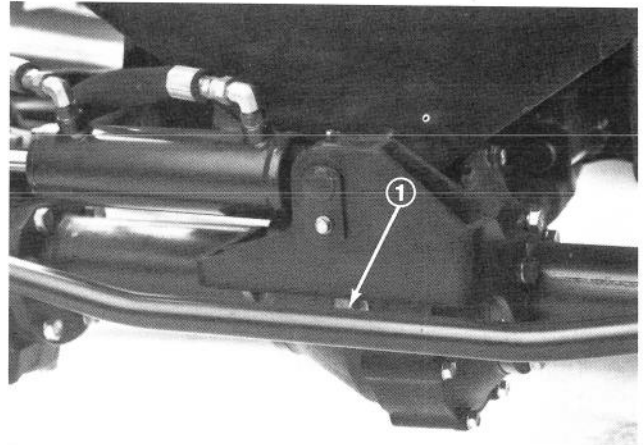

Figure 22
1. Check Plugs (2) 2. Mounting Bolts
3. Remove plug in center of axle and check level. If level is low, add enough lubricant to bring the level up to the bottom of the hole (Fig. 22).